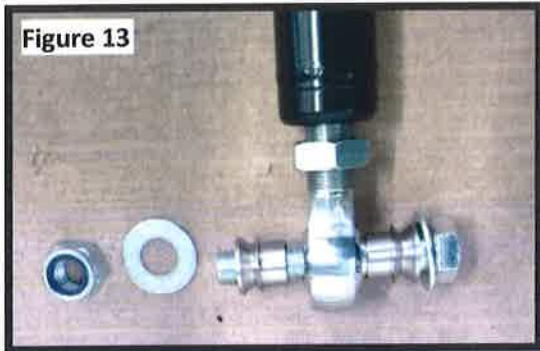

Figure 13
21. Insert high misalignment spacers into the rod end of the trailing arm and mount to the middle hole of the axle mount using 5/8" x 3.5" hardware. (Figure 13)